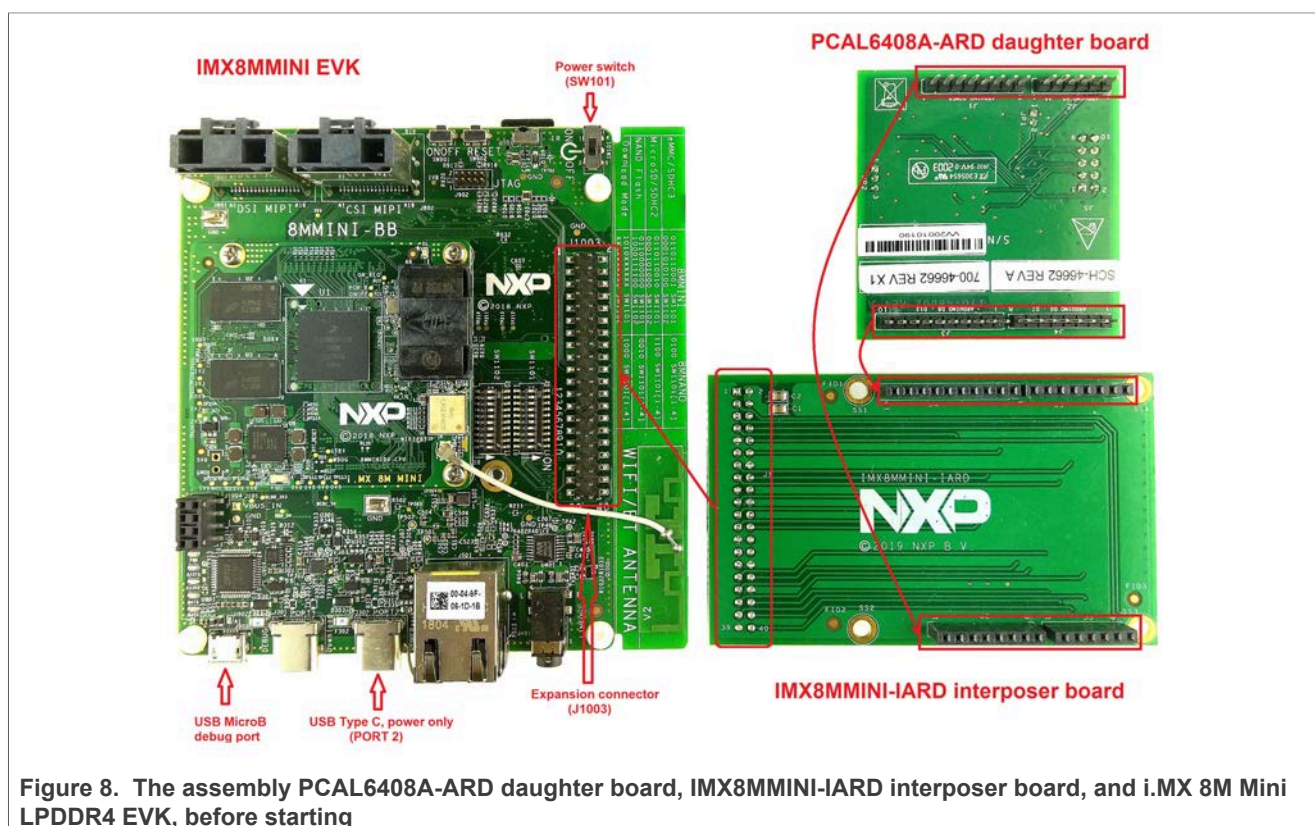
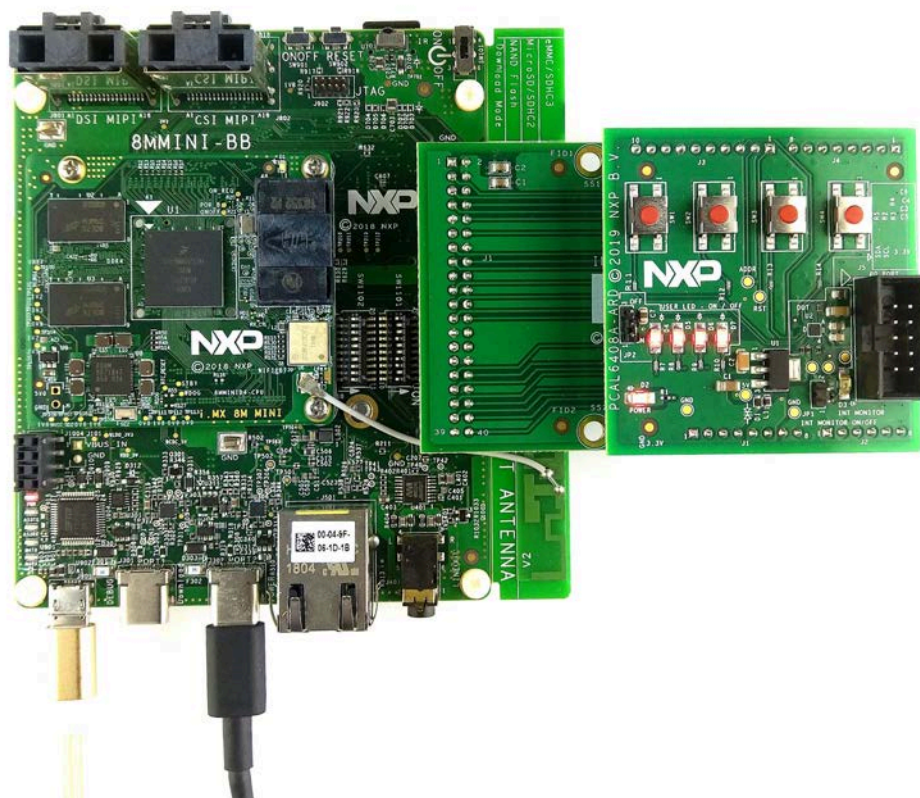

Figure 8. The assembly PCAL6408A-ARD daughter board, IMX8MMINI-IARD interposer board, and i.MX 8M Mini LPDDR4 EVK, before starting
Figure 9. PCAL6408A-ARD daughter board / i.MX 8M Mini LPDDR4 EVK board operation
To operate the setup, along with the EVK and the daughter board, a third board must be included in the setup assembly. Figure 8 shows the necessary boards and how these boards are connected. The configuration consists of:
To power-up the EVK, an USB-C type cable connected to PORT 2 of the EVK is used. The power switch SW101 on the EVK board must be set to ON position to power-up the setup. Data communication is achieved by routing a separate USB (Micro-B type) cable from an USB port on the PC to debug port (J901) on the EVK (see Figure 8 and Figure 9).
2. Attach IMXMMINI-IARD connector plug J1 (located on the bottom of the board) into J1003 expansion board located on the top side of i.MX 8M Mini LPDDR4 EVK (see Figure 8)